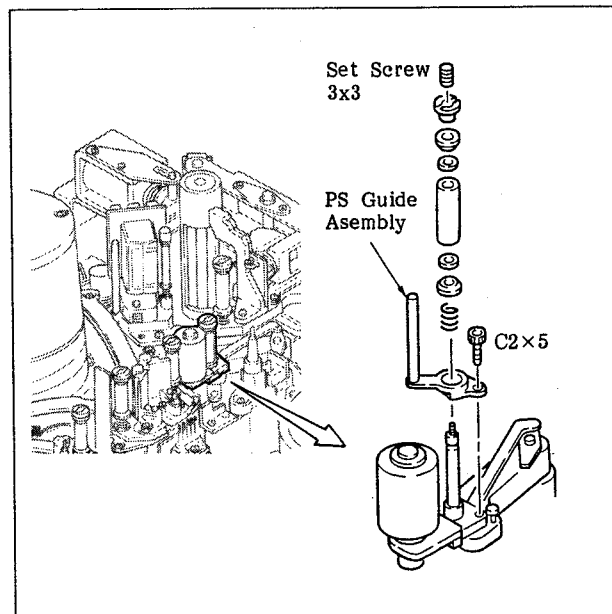

Fig. 6-114 Replacement of the PS Guide Assembly
1. Remove the PS guide assembly by referring to Figure 6-114.